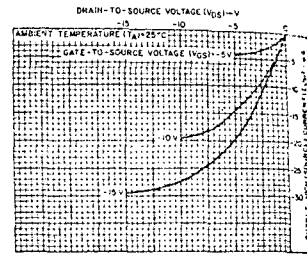

Fig. 8 - Typical output high (source) current characteristics.
The time period (T) for this multivibrator can be approximated by:  $T_X = 1.1 R_X C_X$  for  $C_X \geq 0.01 \mu F$ . Time periods as a function of  $R_X$  for values of  $C_X$  and  $V_{DD}$  are given in Fig. 8. Values of T vary from unit to unit and as a function of voltage, temperature, and  $R_X C_X$ .